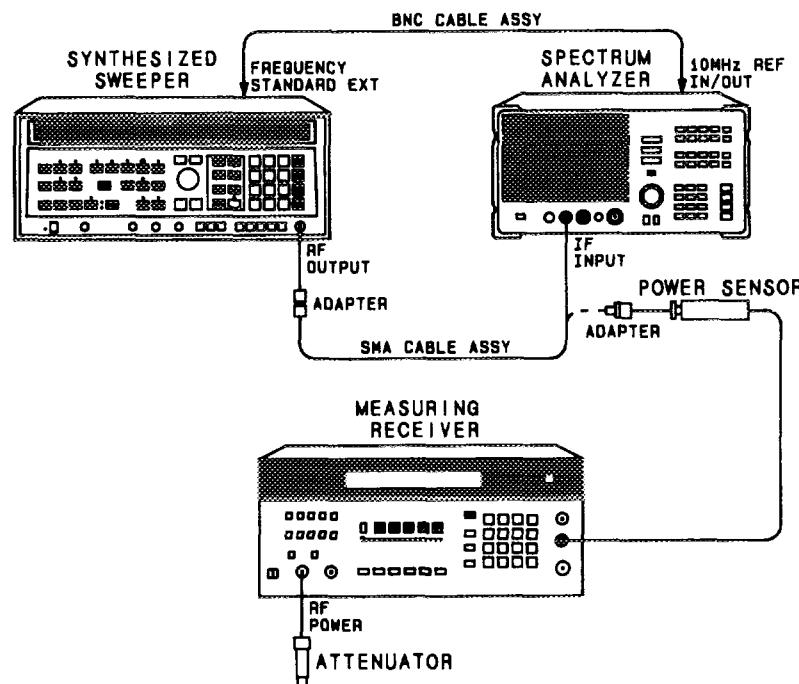

Figure 3-24. IF Input Amplitude Test Setup
1. Connect the equipment as shown in Figure 3-24. The HP 8562A/B provides the frequency reference for the HP 8340A.